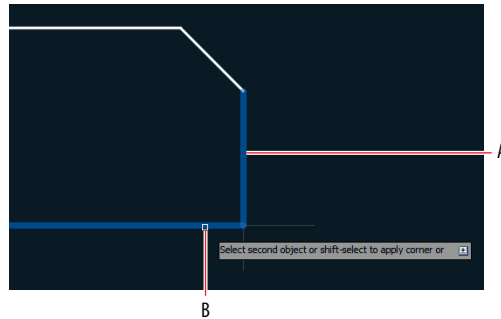

FIGURE 3.8 Filletting with a zero radius to form a corner
9. Type **F** (for Fillet), and press Enter. Verify that Radius is set to 0 in the Command window, and then click the vertical and horizontal lines on the portions of the lines that you want to keep (marked A and B in Figure 3.8).